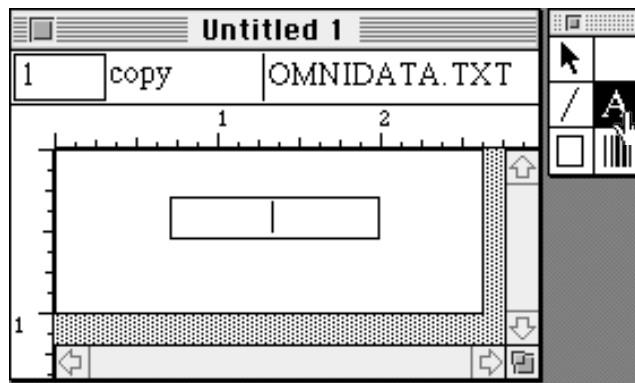

Figure 8-5 Creating a Text Object in the Work Area
1. Create the text object. Create a text object by choosing the text tool from the tool palette. Then click on a location in the work area. See Figure 8-5.